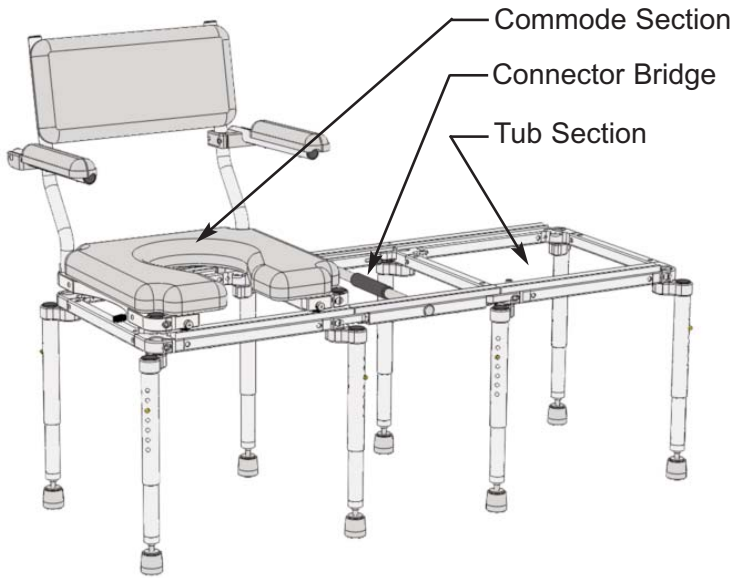

Figure 1
**A** The multiCHAIR 5000, 5100, and 5200 (Refer to Figure 1) are composed of a shuttle with back and fold-back cantilever arms, lower frames with legs & adjusting feet.